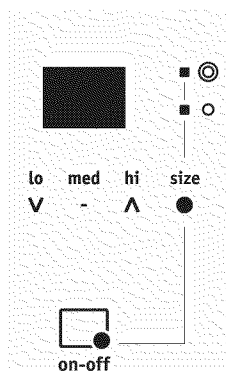

Fig. 1
3. Press **Size** keypad (Fig. 1) and toggle to select the single (Fig. 2) or dual (Fig. 3) element size setting.